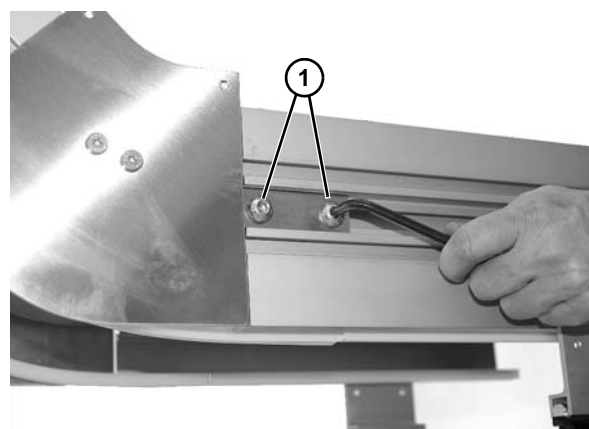

Figure 9
2. Tighten two socket head screws (**Figure 9, item 1**). Repeat on other side.